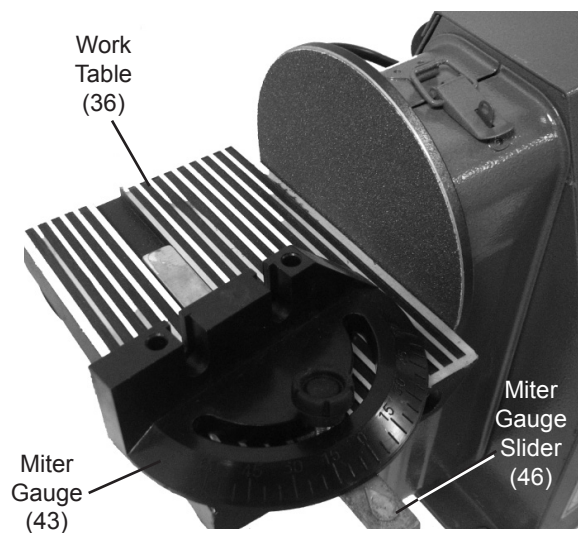

Figure 5
6. Once the Work Table is secured, set the Miter Gauge (43) onto the Work Table by sliding the Miter Gauge Slider (46) into the groove on the Work Table. See Figure 5, below.